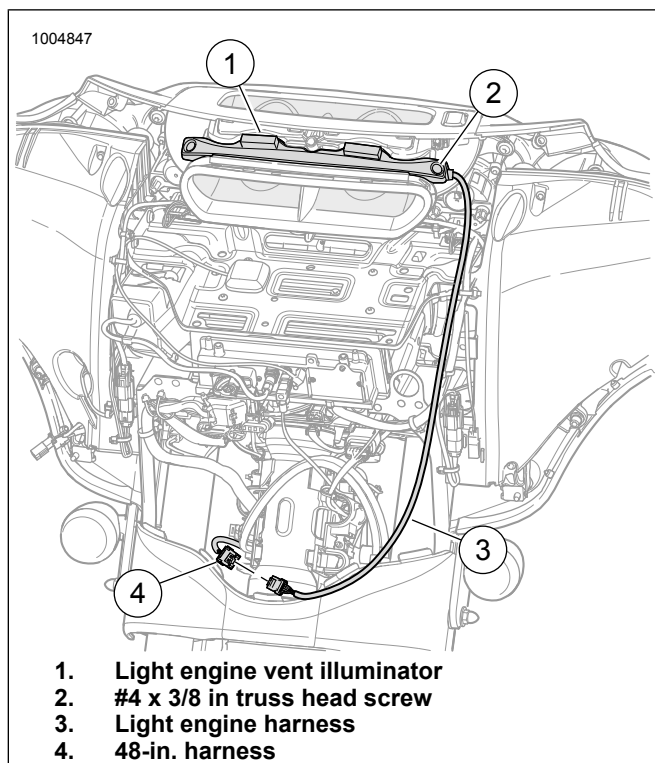

Figure 5. Harness Connections
7. See Figure 5. Position light engine vent illuminator (1) onto fairing vent and secure it with two #4 x 3/8 in. truss head screws (2).
10. See Figure 5. Route light engine harness (3) from light engine vent illuminator (1) to steering head and connect to the 48-in. harness (4) at steering head.